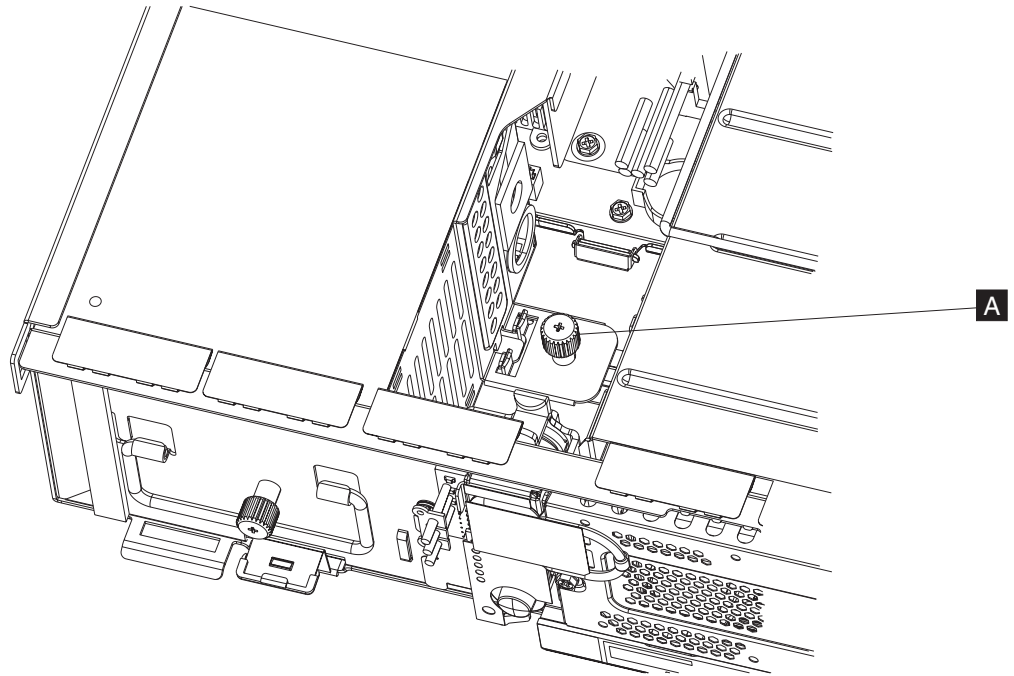

Figure 33. Loosening the spline screw
4. Completely loosen the spring screw (**A** in Figure 33 on page 47) holding the front of the spline down to the pullout tray.